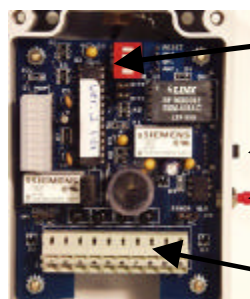

figure 3
- To attach the 12VDC power source, locate the terminal port on the Single Port Receiver. (see fig.3). Using a small flat head screwdriver, press on the arm of the jack labeled "-" and insert the negative lead into the jack. Do the same for the jack labeled "+" and insert the positive lead into the jack. On the small 12VDC power supply furnished by General Sensors, Inc., the terminal labeled "1" is +12VDC, terminal "4" is the negative lead. Terminal "2" is ground from the 110VAC if you wish to connect ground to the Single Port Receiver.
and are numbered 1 through 10 (see fig.3).